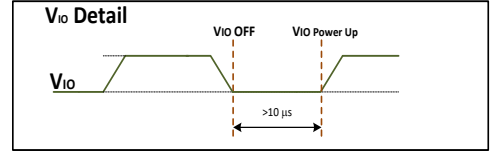

Figure 1 Digital Supply Detail
- Once VIO is powered down to 0V, wait a minimum of 10 μ s to reapply power to VIO. (see figure 1)